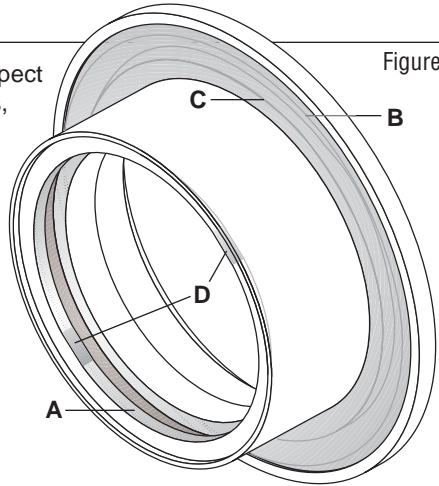

Figure 4
3.4 Inner Gland (1C) (Figure 4)